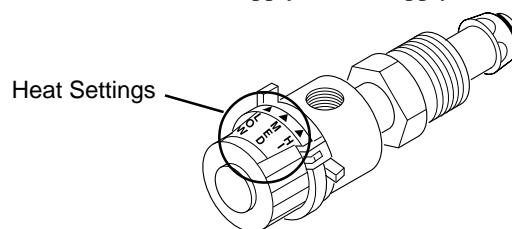

Figure 4 - Heater Regulator
8. When burner remains lit, you can turn the heater regulator knob clockwise to the desired heat setting (see Figure 4). If burner goes out, turn off gas. Turn regulator knob fully clockwise to “OFF.” Check fuel supply. If fuel supply is OK, restart heater.